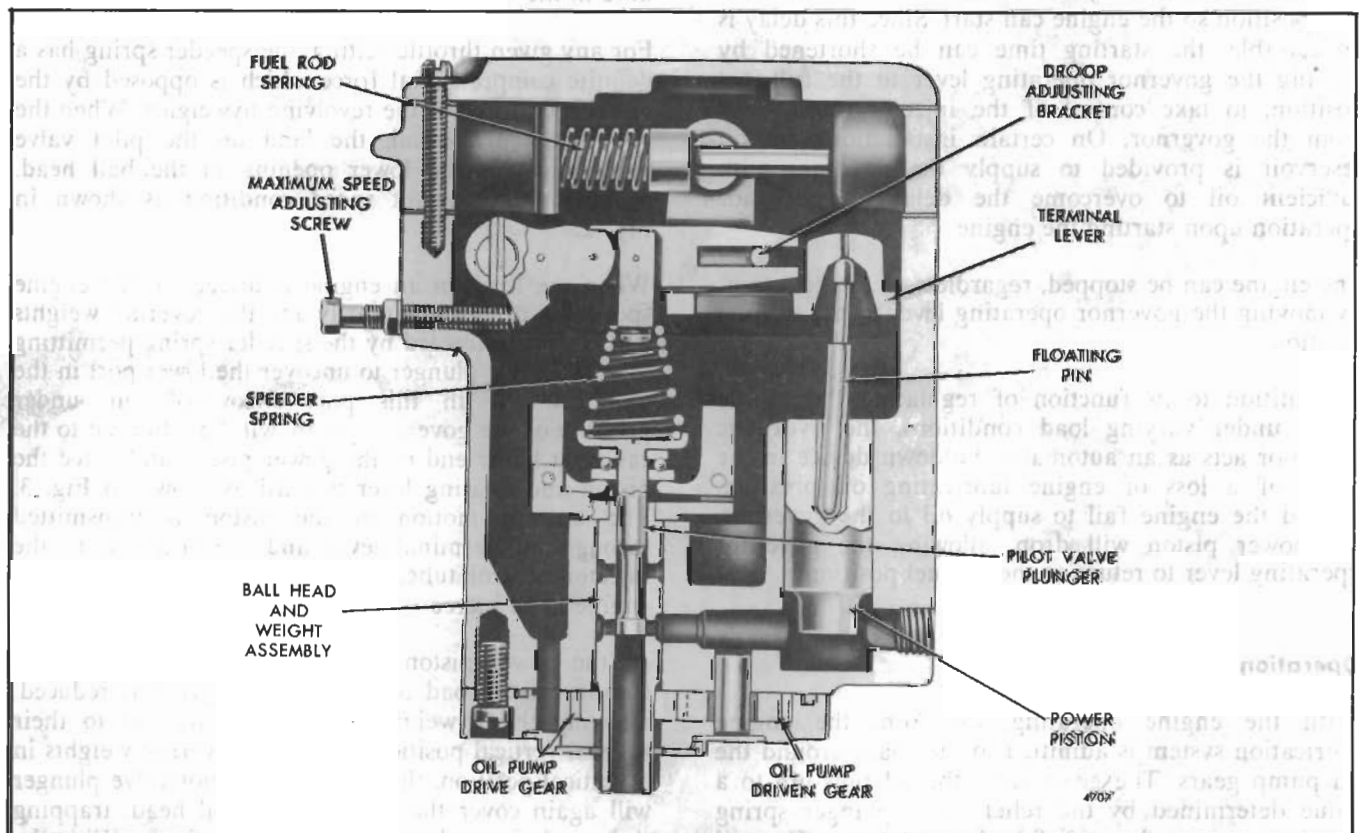

Fig. 1 - Hydraulic Governor Assembly
- b. Raise the connecting pin up in the connecting link lever (Fig. 1). Insert the end of the fuel rod between the two bosses on the lever and insert the connecting pin through the fuel rod and into the lower boss.
The governor (Fig. 1) is a hydraulic type with a speed droop stabilization mechanism. Hydraulic action is transmitted by oil admitted under pressure from the engine lubricating system to an auxiliary oil pump in the governor. The auxiliary pump then develops the oil pressure necessary to actuate the governor mechanism.
Refer to Figs. 1 and 12 for the location of the various parts and disassemble as follows: